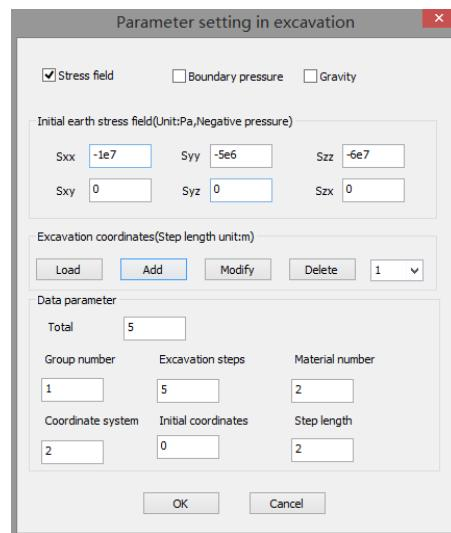

Figure 48 Stress field settings and excavation scheme settings for excavation problems
- (5) Set loading condition for excavation problems, including stress condition settings and excavation scheme settings (Figure 48);